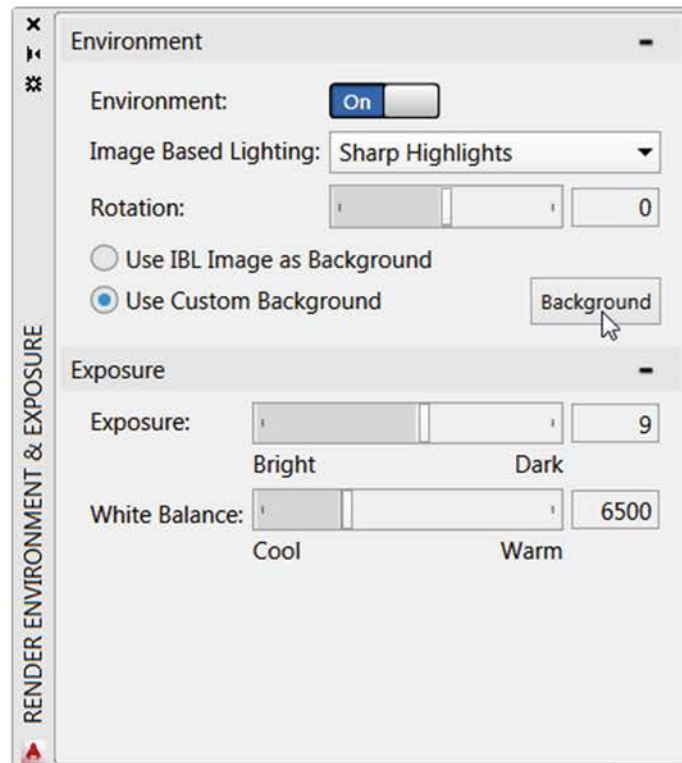

Fig. 16.17 The Render Environment & Exposure dialog
2. In the **Environment** dialog box set **Environment On**, select **Use Custom Background** and then select the **Background** button (Fig. 16.17).